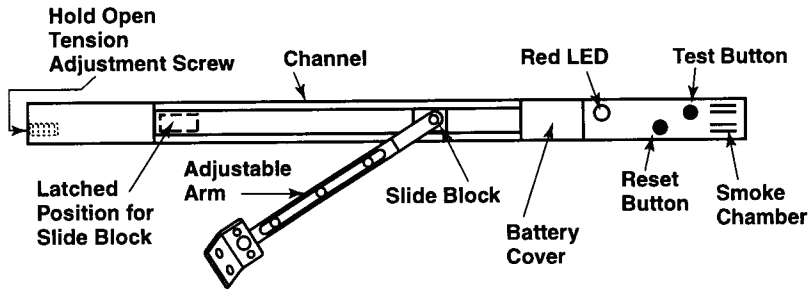

Figure 1
1. Remove battery compartment cover (see Fig. 1) and install alkaline 9-volt battery. (The red LED should now flash once every second and the motor will run briefly.)
12. Move the slide block to the latched position (see Fig. 1).